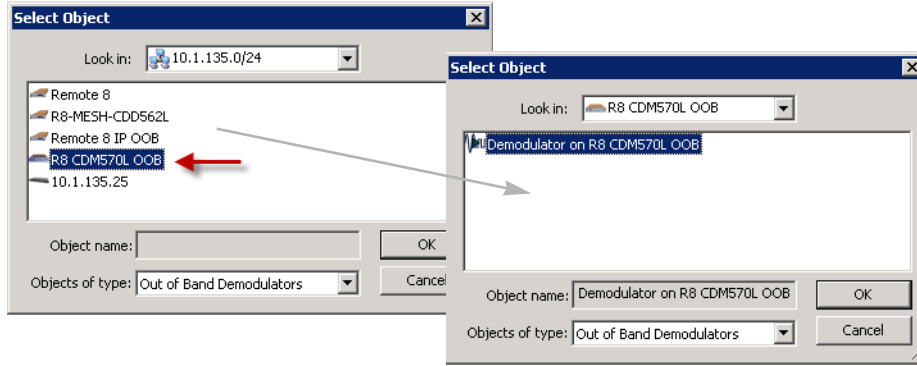

Figure 7-19 Select Demodulator, Half Duplex Broadcast
28. Navigate through the Select Object window to choose the receiving demodulator (figure 7-19) and click **OK**.